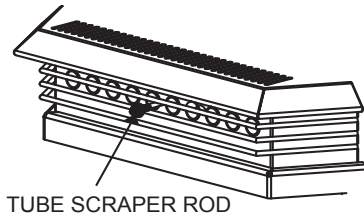

Figure 26. Tube scraper rod to clean the heat exchanger pipes.
1. Pull and push the cleaning rod which is located in the center, above the door (see Figure 26). This will remove the ash deposits on the heat exchanger tubes. The removed ash will fall on the top heat shield, located in the burn chamber.